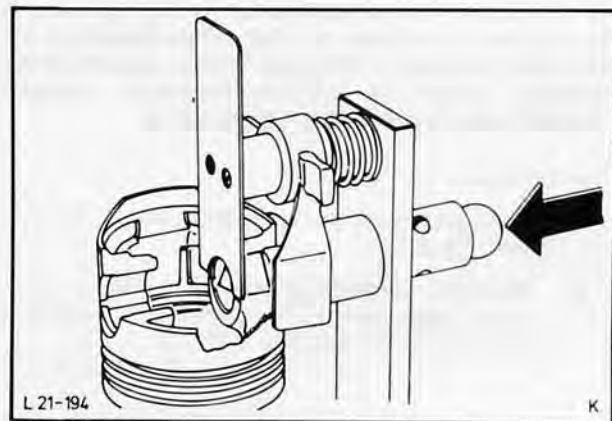

Fig. 223. Slide guide pin through bore up to boss
5. Clamp piston in Special Tool with front marking (arrow or notch) pointing away from Special Tool. Apply engine oil to both piston pin bores and slide guide pin through bore up to boss, Fig. 223.